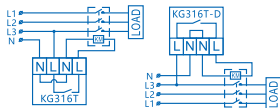

Figure 5 AC220V three-phase control wiring diagram (contactor coil 220V)
a) The coil voltage of controlled contactor is AC220V 50Hz/60Hz. Wiring diagram is shown in Figure 5;